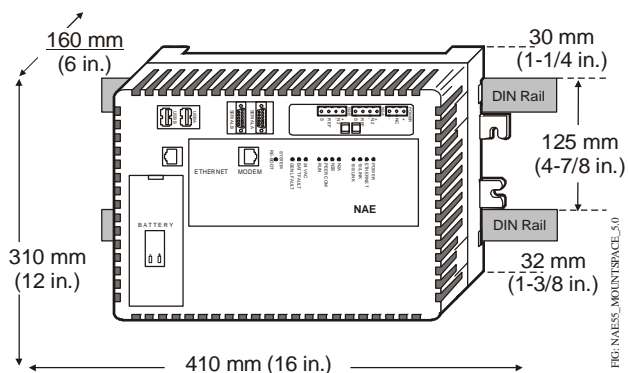

Figure 2: NAE55 DIN Rail Mount Dimensions and Mounting Space Requirements (mm/in.)
- Allow sufficient space for running cable and wire, making terminal connections, and accessing battery compartment. (Figure 2).
1. Mount two DIN rails horizontally, so they are 125 mm (4.9 in.) apart on centers (Figure 2).